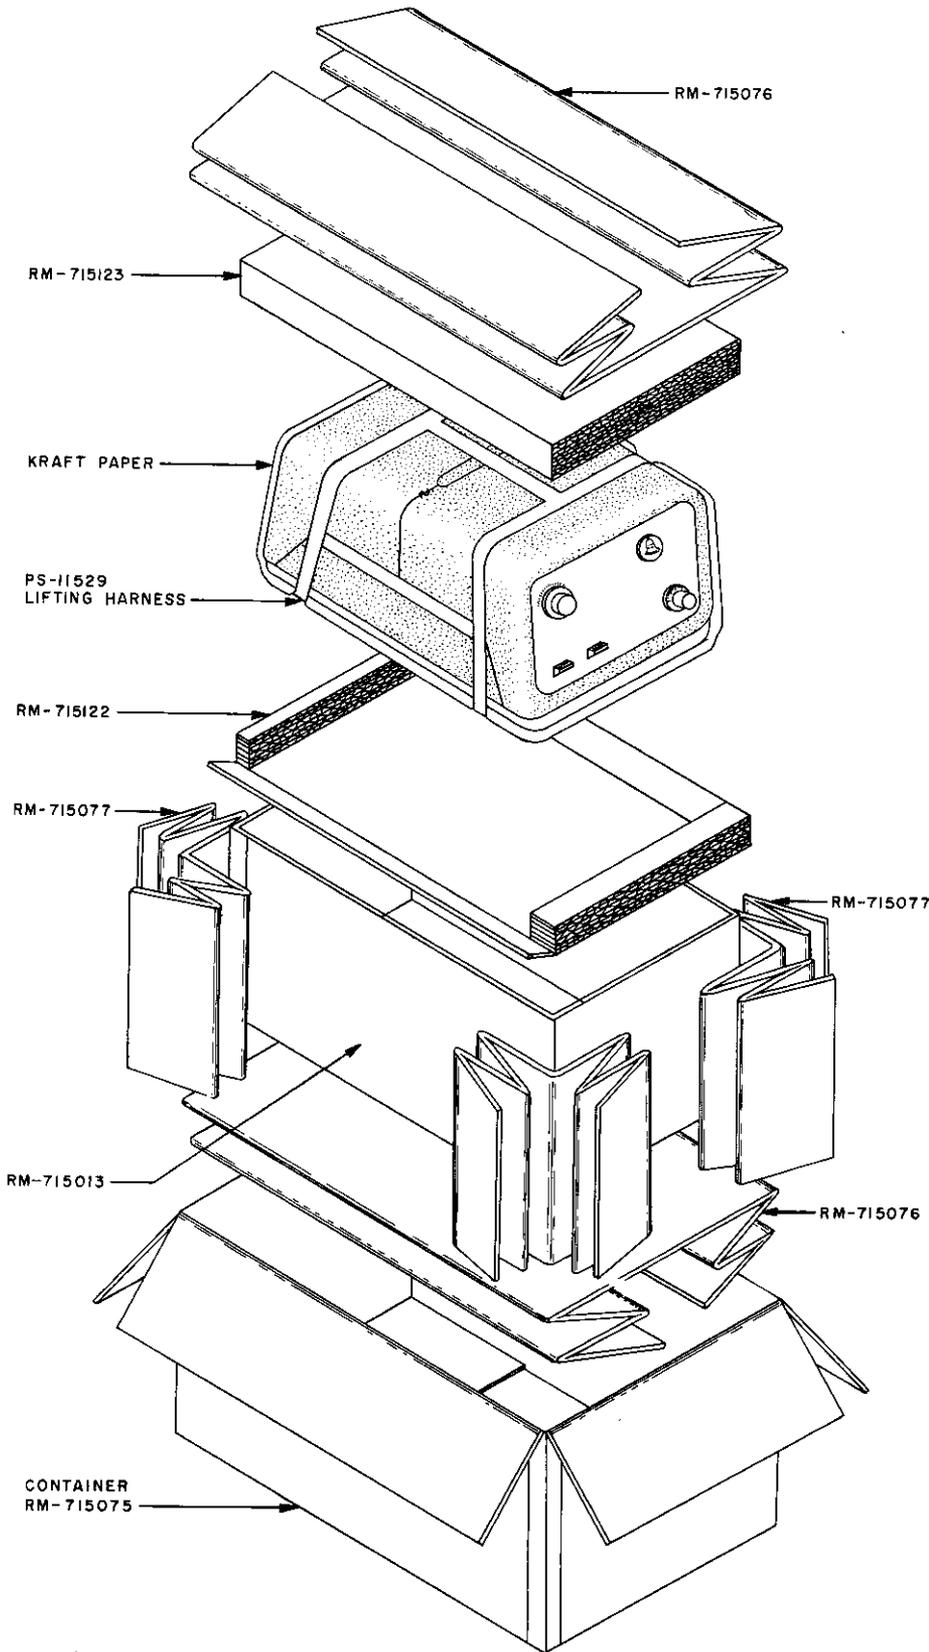

Fig. 2 - Approved Cardboard Container
- Place answering set in the approved cardboard container per Fig. 2.